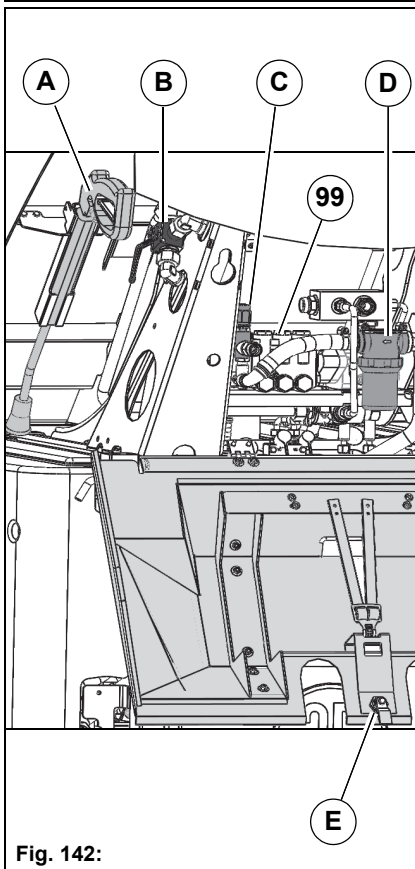

Fig. 142:
- Check the water filter **Fig. 142-D** of the high-pressure cleaner and clean it if necessary.
1. Start the vehicle and drive to the work site. Engage the parking brake. Open the flap **Fig. 142-E**.
2. Set the changeover valve **Fig. 142-B** to position II.
4. Set the pressure controller **Fig. 142-C** to the required working pressure.
5. Take up the lance **Fig. 142-A** with the pressure hose and clean the surface.